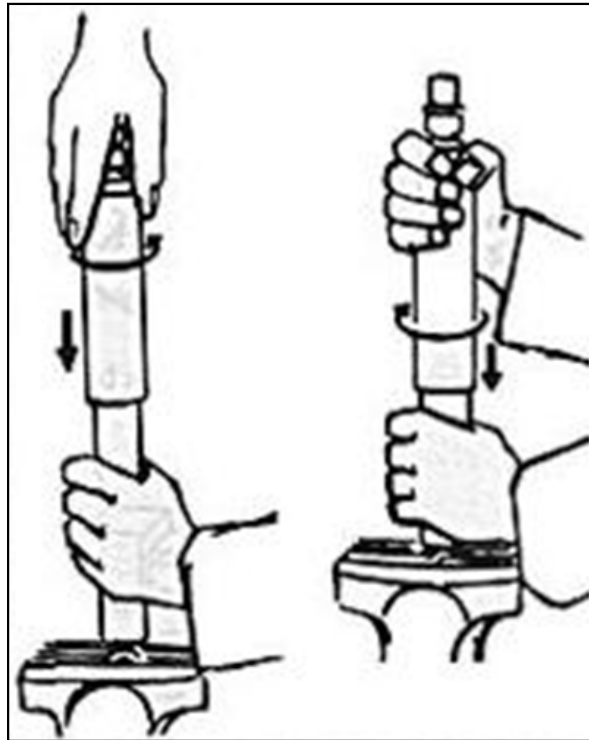

Figure 4: Adjustment of Shock Absorber
8. Maintain slight pressure on the shock absorber in the fully collapsed position while rotating it counterclockwise and recording the number of turns until the internal stop is reached, see Figure 4.